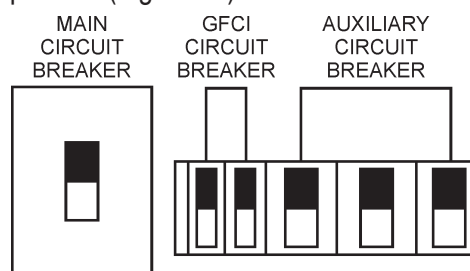

Figure 53. Main, Aux. and GFCI Circuit Breakers (ON)
18. Place the **main, GFCI, and aux.** circuit breakers in the **ON** position (Figure 53).